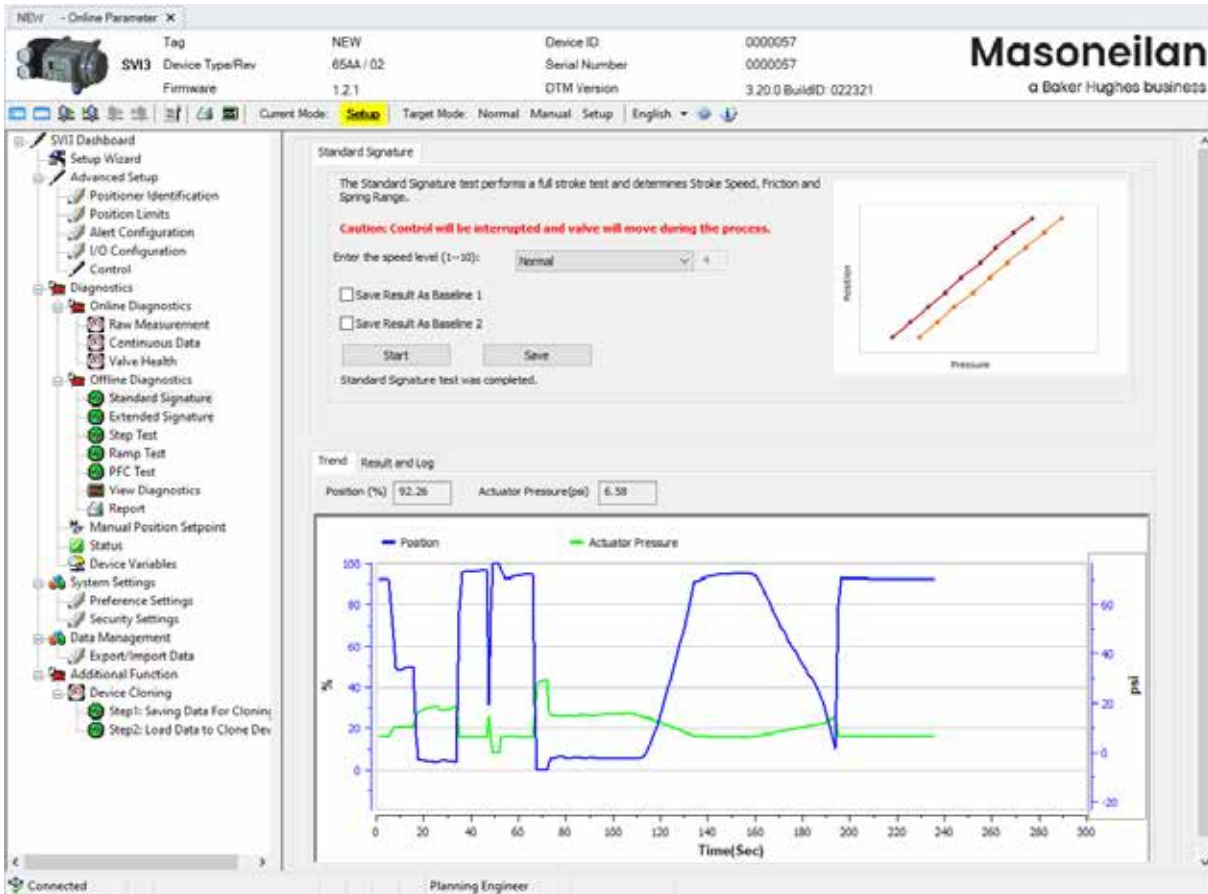

Figure 73 Diagnostic: Offline Diagnostics: Standard Signature
2. Click **Standard Signature** tab and enter the *Speed Level* (Figure 73).